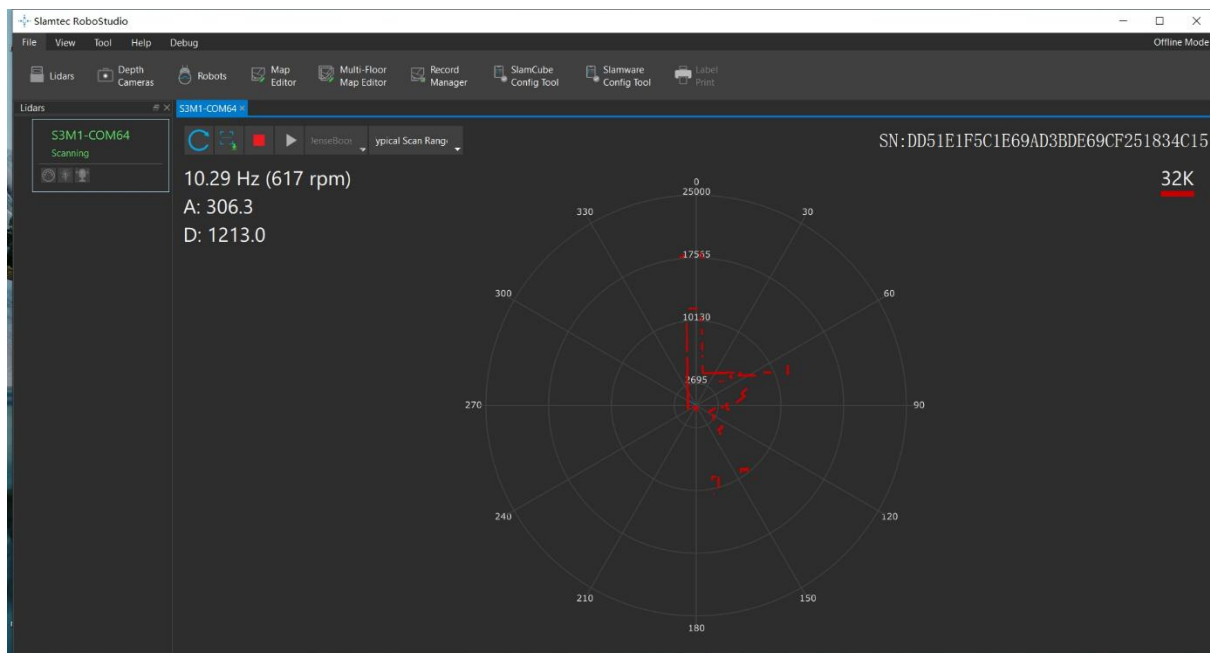

Figure 2-7 The Lidar Plugin in RoboStudio
3. Click the RPLIDAR S3 icon to extend the tool buttons below the icon: the left one is to adjust the motor speed while the right one is to open the tool bar in the major work area as shown in Figure 2-7.